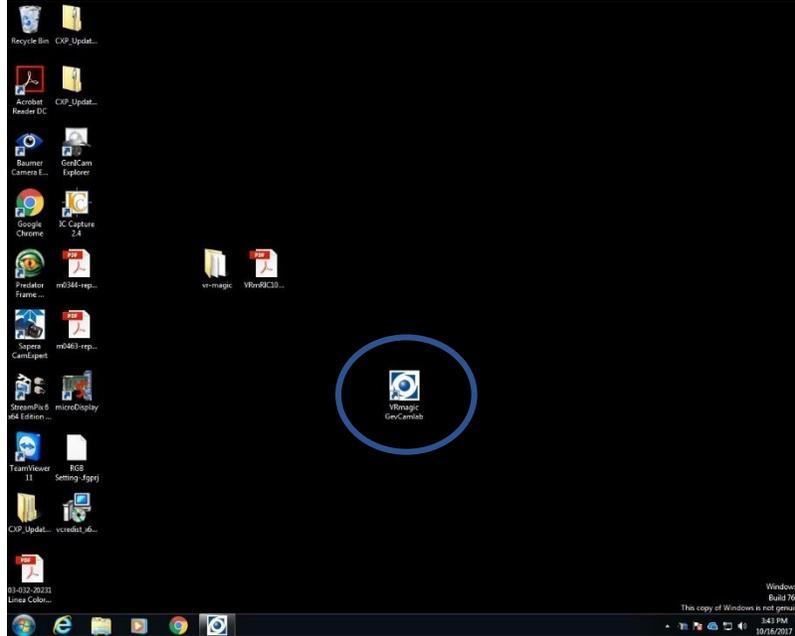

Figure 10: New software icon.
2. Then you will see the software interface window pop up. There focus in the Discovery and Device panes; shown in Figure 10. In the Discovery pane click refresh until you see your camera show up as it shows in Figure 10. Then double click the camera of interest.